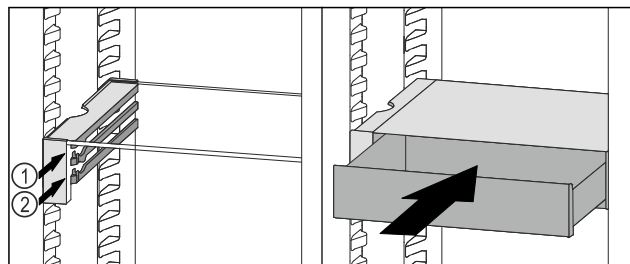

Fig. 204
- Place the VarioSafe drawer behind the stoppers on desired rib Fig. 204 (1) or Fig. 204 (2).